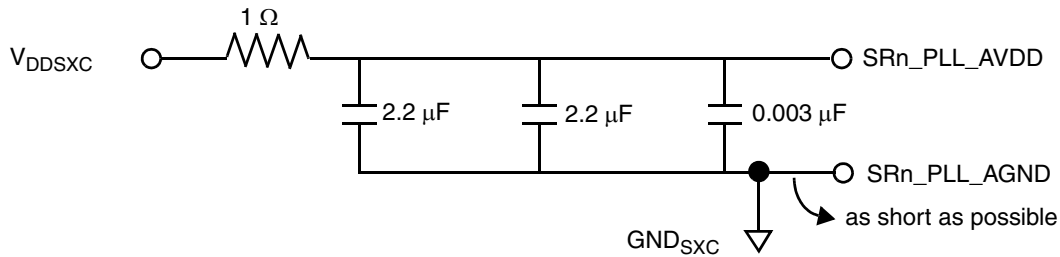

Figure 38. SerDes PLL Supplies
- Couple inputs SR1\_PLL\_AVDD and SR2\_PLL\_AVDD with SXCVDD1 and SXCVDD2 power rails, respectively, using an RC filter (see Figure 38).
Each SerDes PLL power supply must be filtered using a circuit similar to the one shown in Figure 38, to ensure stability of the internal clock. For maximum effectiveness, the filter circuit should be placed as closely as possible to the SRn\_PLL\_AVDD ball to ensure it filters out as much noise as possible. The ground connection should be near the SRn\_PLL\_AVDD ball. The  $0.003 \mu\text{F}$  capacitor is closest to the ball, followed by the two  $2.2 \mu\text{F}$  capacitors, and finally the  $1 \Omega$  resistor to the board supply plane. The